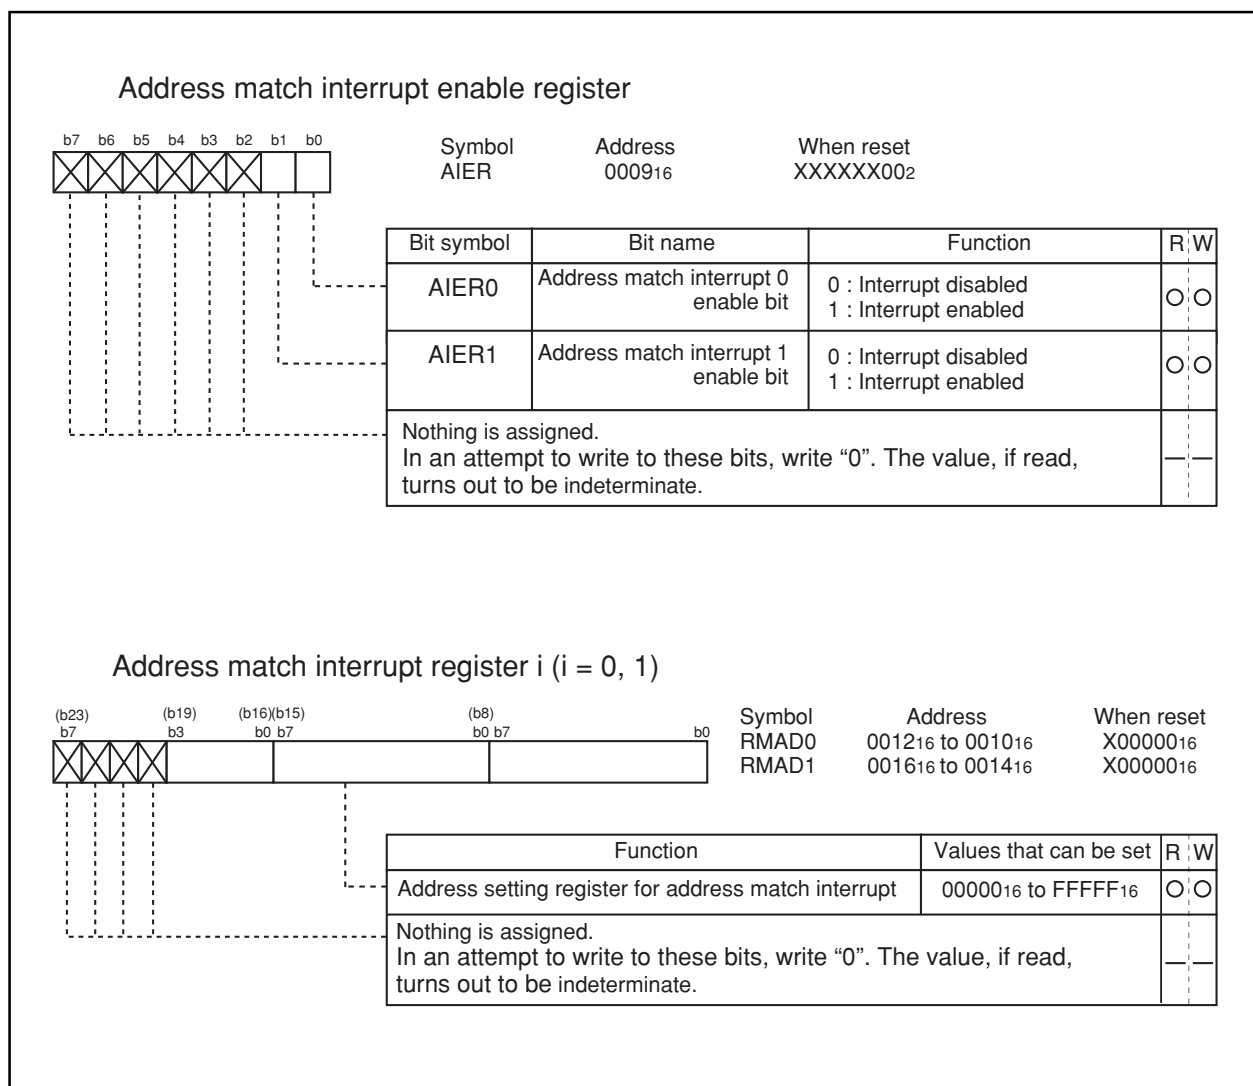

Figure 1.12.16. Address match interrupt-related registers
An address match interrupt is generated immediately before the instruction at the address indicated by the address match interrupt register is executed. Two address match interrupts can be set, each of which can be enabled and disabled by an address match interrupt enable bit. Address match interrupts are not affected by the interrupt enable flag (I flag) and processor interrupt priority level (IPL). The value of the program counter (PC) for an address match interrupt varies depending on the instruction being executed. Figure 1.12.16 shows the address match interrupt-related registers.